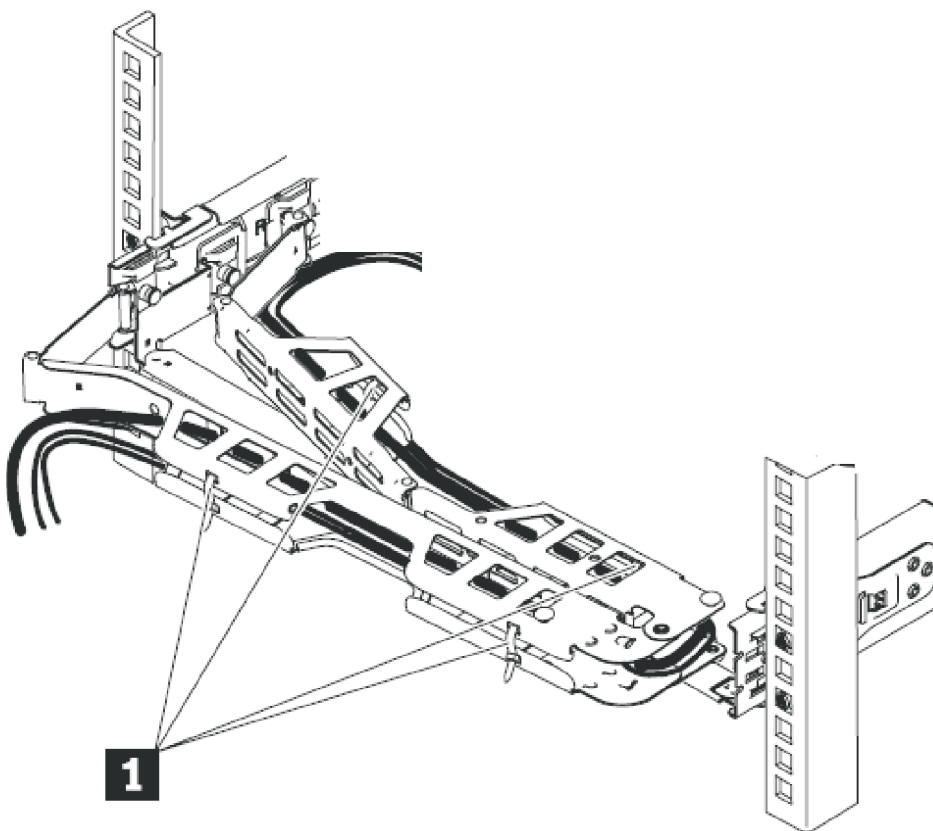

Figure 19. Removing the cables from the cable-management arm
- b. Free the cables and power cords from the cable-management arm, as shown by **1** in Figure 19.